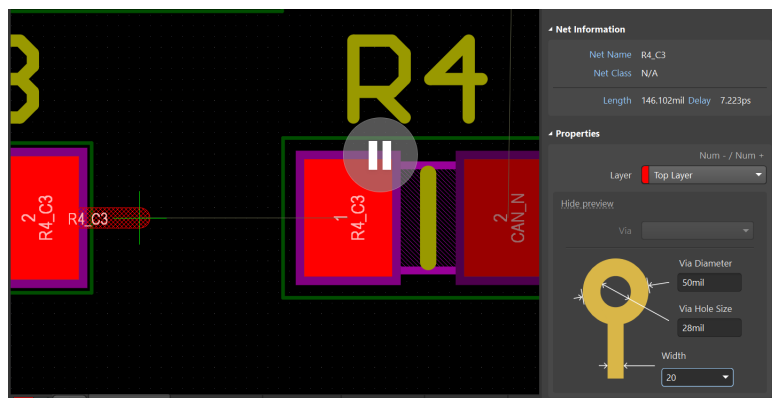

Figure 40: Screenshot showing how to adjust trace width while routing
- While you are routing, if you press the Tab key on your keyboard, you pause the routing and open up the trace settings. From there, you can adjust the trace width (in the bottom right under "Width") if you so choose, and simply press the pause button in the center of the screen to resume routing with your new trace width. This process is shown in Figure 40.